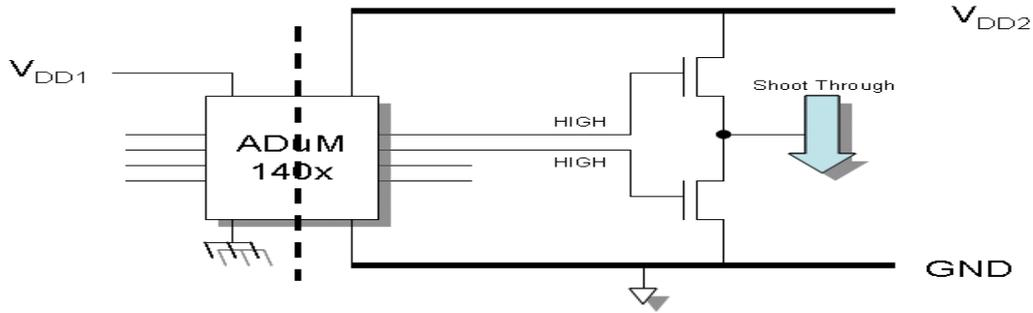

Figure 4 Shoot Through due to default state
2) The default output of the standard *iCoupler* device must be considered if there can be a condition where power is not present on both sides of the device. Referring to Figure 4, if V_{DD1} is off, any outputs on side 2 will take the default HIGH output of the ADuM1400 device. Since the side 2 circuit is a FET half bridge, a default HIGH output would drive both FETs on and potentially damage them. In this case